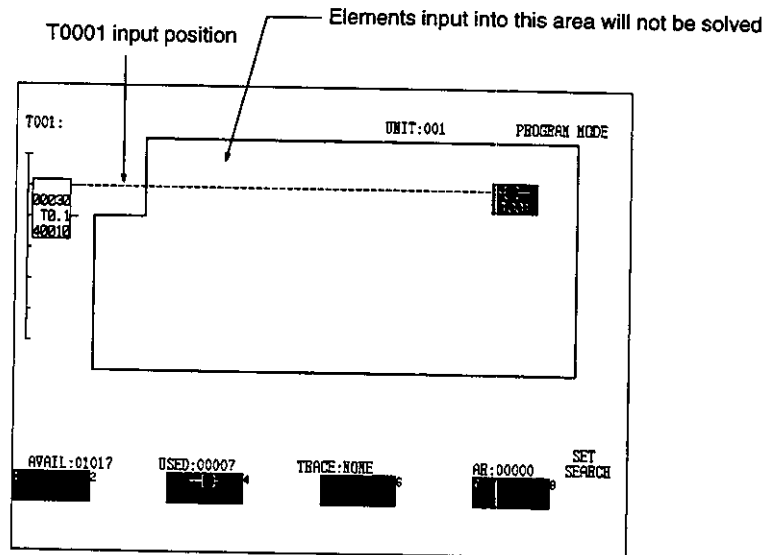

Figure 7.147
- (1) Position the cursor in the logic area.
- (2) Be sure that the Memory Protect Switch of the GL60S, GL60H, or GL70H is turned OFF.
- (3) When inputting a transition coil, there is no need to input a reference number. It will be set for each transition.
- (4) Normal coils { }, {L} cannot be input.
- (5) Transition circuits are needed for transitions used in the SFC flow. While ladder circuits are not required, a transition coil must be input when a ladder circuit is not created.
- (6) Searches in Network Check are not limited to transition circuits, but includes action circuits and normal ladder circuits as well.
- (7) When a transition coil is solved in a transition circuit, elements in the columns to the right of the transition coil and the elements in rows below it will not be solved. See Figure 7.147.